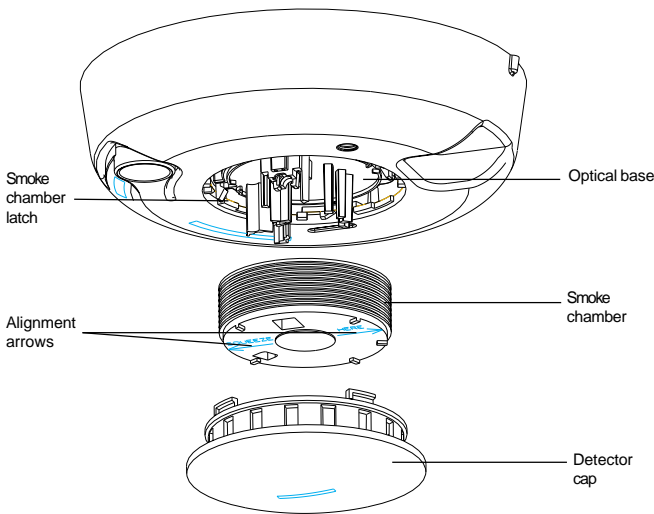

Figure 6 - Detector Parts
5. Squeeze the smoke chamber where indicated by the alignment arrows and pull it up and away from the detector and discard. See Figure 6.